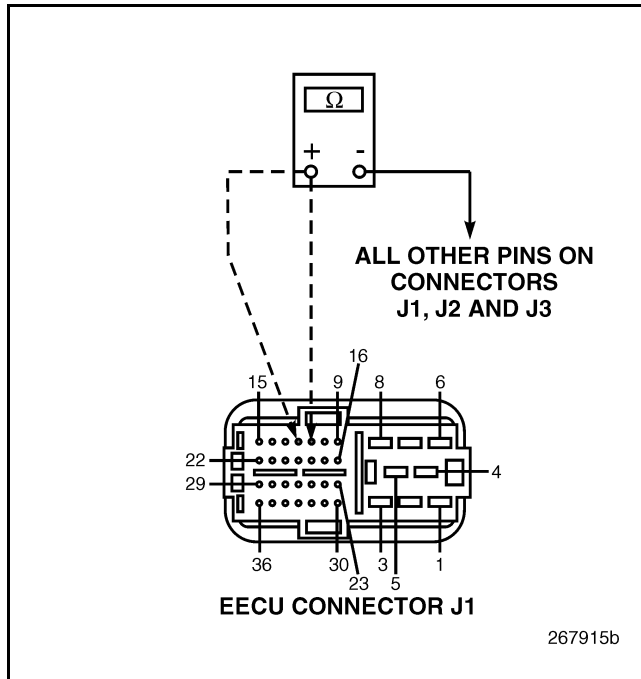

Figure 115
4. Check for continuity between Engine Electronic Control Unit (EECU) connector J1 pins 11 and 12 versus all other pins on EECU connectors J1, J2, and J3 (see Figure 115).